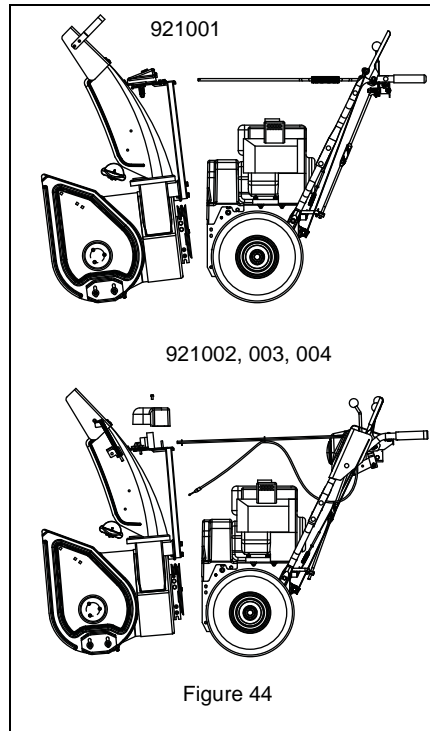

Figure 44
2. Remove belt cover and chute gear cover (921002, 003, 004) (Figure 44).
8. Remove hex bolts securing housing to frame (two on each side). Tip housing and frame apart on pivot pin (Figure 44).